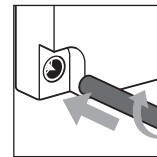

Fig. 2.
- d. Cut the end of the high voltage cable flat, insert high voltage cable into the shroud and screw onto the high voltage self tapping screw. The connection is convenient and reliable (See Fig. 2 & 3).